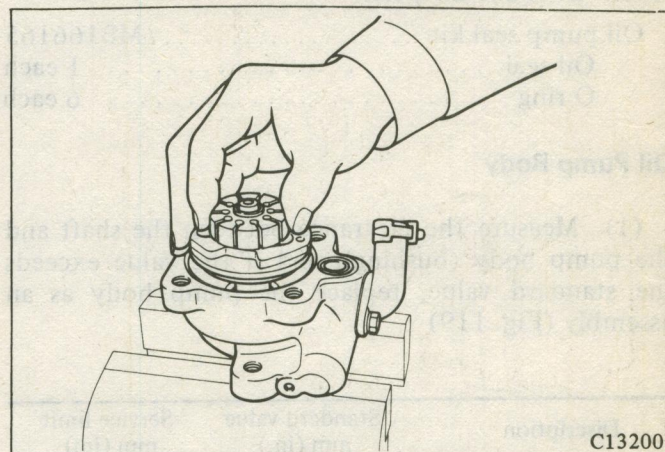

Fig. 117 Removing the Cam Ring, Rotor, etc.
(3) Remove and take out the following parts from the pump body. (Fig. 117)